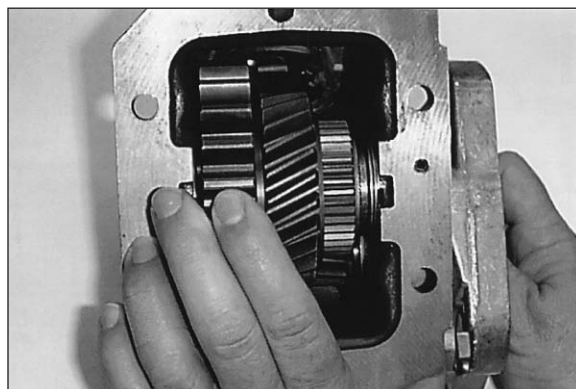

Fig. 4
5. Using your hand, rock the P.T.O. driver gear in the transmission and the driver gear in the P.T.O. assembly. Rocking the gears provides two important factors (Fig 4).